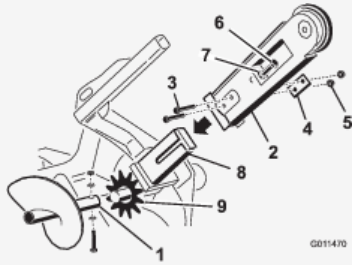

Figure 4
3. Remove the bolt, 2 saddle washers, and nut securing the spoils auger and remove the auger (Figure 4).
4. Remove the 2 bolts, nuts, and double washers from the sides of the boom (Figure 4).
5. Loosen the adjusting bolt and jam nut (Figure 4).